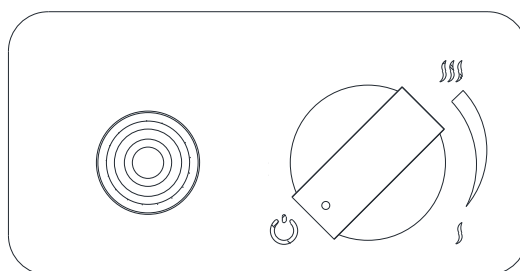

Fig 8 – Off position
- Make sure that the knob is placed in „OFF” position (all the way clockwise) (Fig 8).